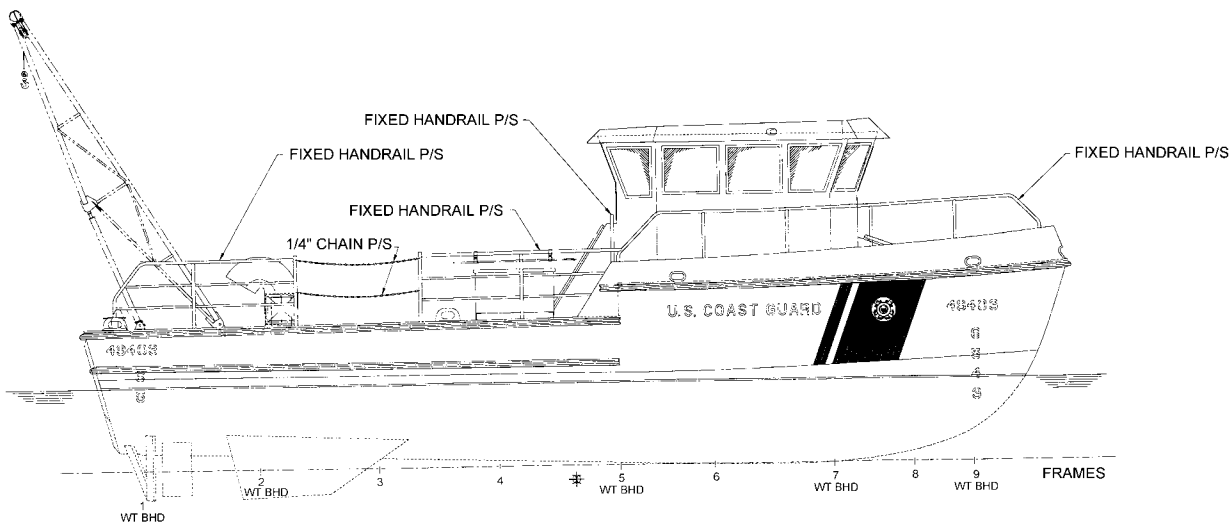

Figure 2-22
E.15.a. On the foredeck Fixed handrails are installed from bulkhead 5 forward to the bulwark rail on the port and starboard sides. (See figure 2-22.)
E.15.b. On the buoy deck Fixed handrails are installed from bulkhead 5 aft approximately 10 feet, allowing for a 6-foot clear opening for buoy deck access and then from the aft chock forward approximately 10 feet. (See figure 2-22.)